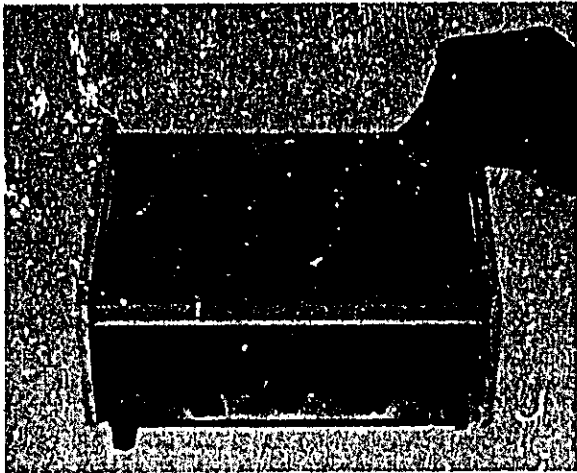

Figure 5-4. Contact Cleaning
- e. Clean contacts as shown in Figure 5-4, using ABRASIVE STICK (HP Part No. 8660-0083. See Figure 5-2).